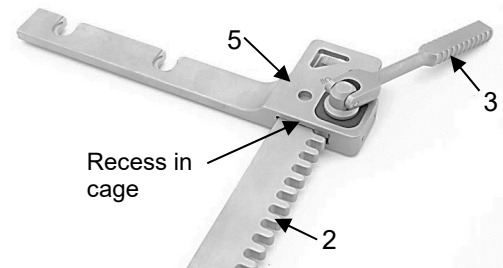

Fig. 8
Insert the toothed rack (2) into the recess of the cage (5) until the pinion of the drive lever (3) engages in the toothed rack (2) (Fig. 8).